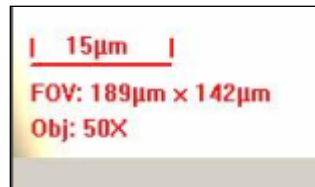

Fig. 30. Scale option for live image
- The *Live Acquisition* group allows you to change the scale displayed on the image. The default display is *Cross-Hair/Scale*. This option places a cross-hair in the center of the field of view (FOV) and a label in the lower left corner of the image that includes the FOV, the objective in use, and a distance scale. Fig. 30 shows an example.